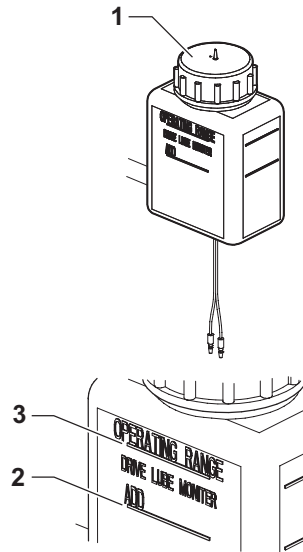

Figure 3-2
1. Check the stern-drive oil level (**Figure 3-2**). Keep the oil level at or near the OPERATING RANGE (full) line (**Figure 3-2, 3**) on the oil reservoir (**Figure 3-2, 1**).
2. The oil level is low if it is below the ADD line (**Figure 3-2, 2**) on the oil reservoir (**Figure 3-2, 1**). Fill as needed with the specified oil. See Fill the Stern-Drive with Oil on page 3-5.